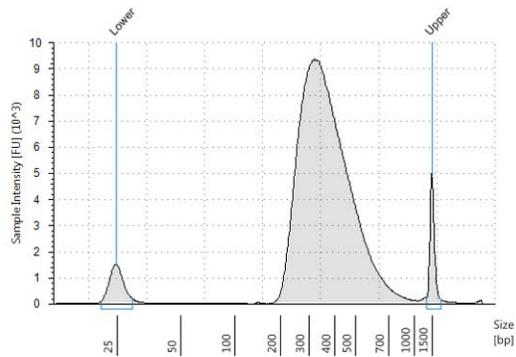
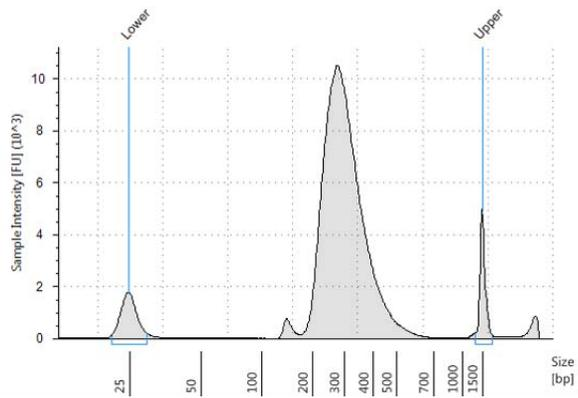

Figure 5 Pre-capture library prepared from a high-quality gDNA sample analyzed using a D1000 ScreenTape assay.
Figure 6 Pre-capture library prepared from a typical FFPE gDNA sample analyzed using a D1000 ScreenTape assay.
- 3 Verify that the electropherogram shows the peak of DNA fragment size positioned between 300 to 400 bp for high-quality DNA and approximately 200 to 400 bp for FFPE DNA. Sample electropherograms are shown in Figure 5 (library prepared from high-quality DNA), Figure 6 (library prepared from medium-quality FFPE DNA), and Figure 7 (library prepared from low-quality FFPE DNA).